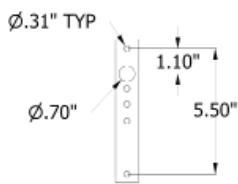
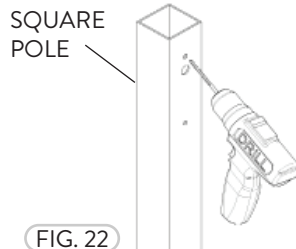

FIG. 21
FIG. 22
- 2 The Arm Mount drilling template is for either a Square or Round pole (Fig. 21). Drill holes on the Square pole by following the Drilling Template to mount the FFLA/2 to the desired height (Fig. 22).